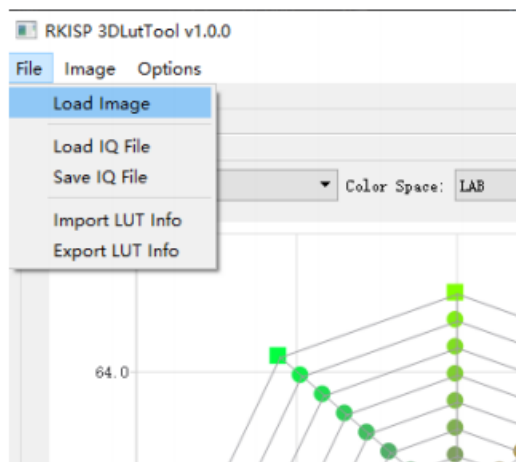

Figure 2-6-2
**Load Image**: Click Load Image to import (supports jpg/bmp/png/nv12), the image will be displayed in the Preview area on the right as shown in Figure 2-6-2.